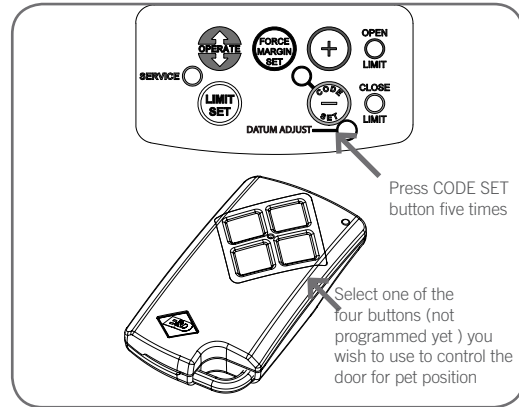

Fig. 37
- Press the same transmitter button again. The CODE SET LED will illuminate for one second and then go out, and the courtesy light will also switch off. This indicates the code has been stored. This indicates the code has been stored (Fig. 37).